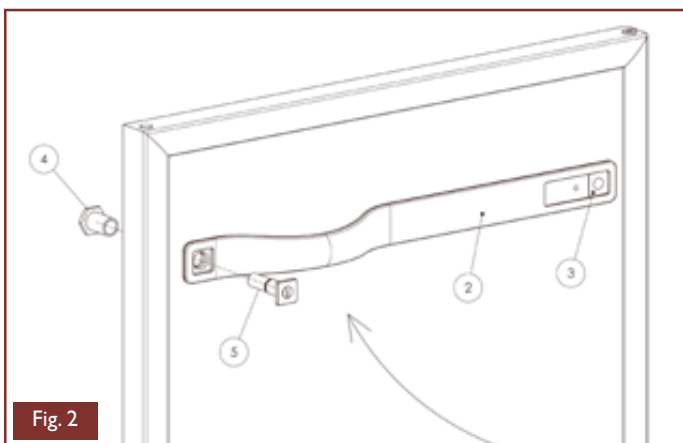

Fig. 2
- Lift the handle (2) to its final horizontal position see Fig.2
- By hand, use the plastic nut (4) to screw on the lock (5), see Fig.2